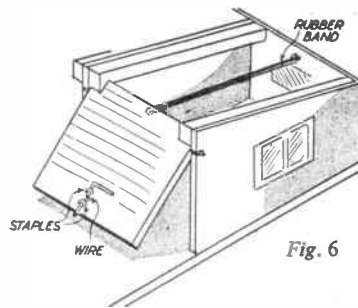

Fig. 6
The next step is to add the stringers and skin the hull and sides. Fix short stringers (19) along formers 6, 7, 8 and 9 as in Fig. 6. Then glue the long stringers (20) along the keel as in Fig. 4. Notice that pieces 21 which are a continuation of 20, are small shaped pieces of  $\frac{1}{4}$  in.
To keep the doors from falling out a light rubber band is then fitted, as shown in Fig. 6, running between small screw eyes or bent pins fastened to the back top edge of the door, and the back wall, near roof height. Adjust the rubber band tension so that it is sufficient to hold the door open in a horizontal position but without giving too vicious a 'spring'.